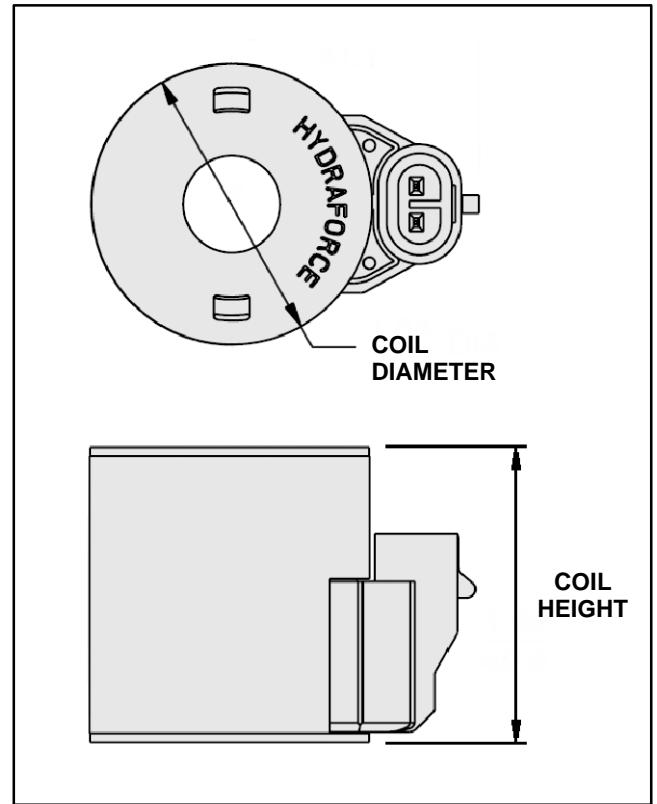

Figure 46
Solenoid valve coils with two (2) different resistance specifications are used on the 4000-D and 4010-D. The correct resistance of a coil can be identified by measuring the height and diameter of the coil (Fig. 46). Resistance testing of the coils can be done with the coil remaining on the hydraulic valve.
3. Identify coil resistance specification by measuring the coil diameter and coil height (Fig. 46).
4. Using a multimeter (ohms setting), measure resistance between the two (2) connector terminals on the solenoid valve coil. The correct resistance for the solenoid coil is identified below: